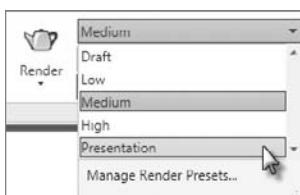

FIGURE 17.36 Choose the Presentation rendering preset.
- 5.** In the AutoCAD window, expand the Render Presets drop-down list, and select Presentation, as shown in Figure 17.36.